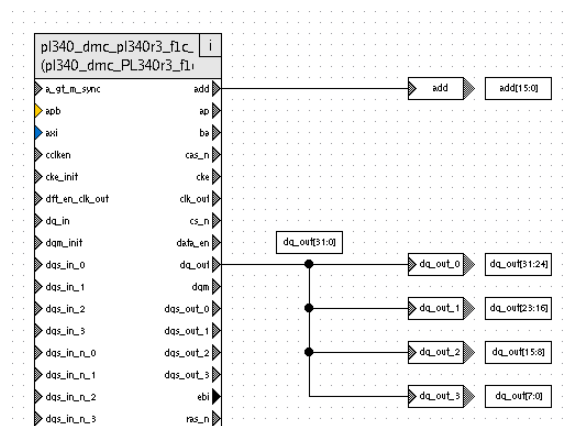

Figure 6-4 Multiple bit-slice connections
3. Click **OK** to save the new L and R signal port values and close the IP-XACT Connections dialog box. Figure 6-4 on page 6-10 shows the sliced connection.